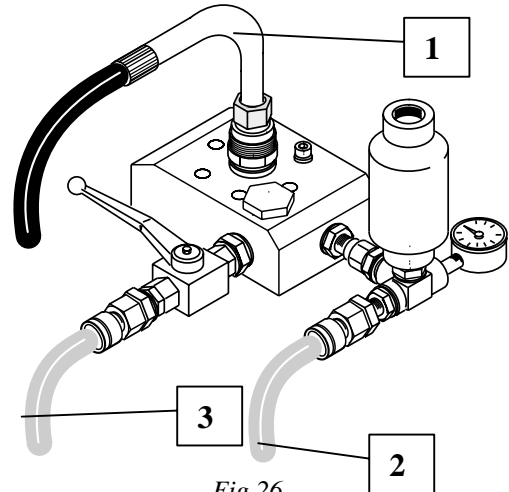

Fig.26
- 3) Check to make sure that all of the pipes are connected correctly (fig. 26)